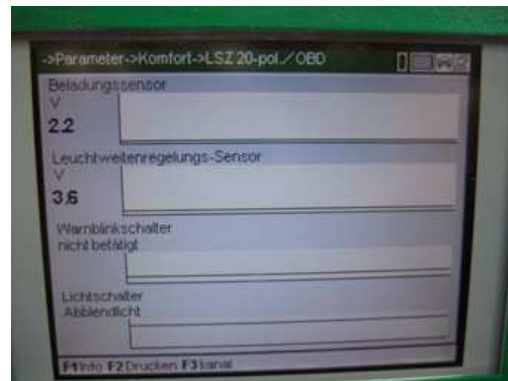

Fig. 3
6. After replacing the front sensor, its value will be 2.2 volts, which is in the nominal range (see Fig. 3).